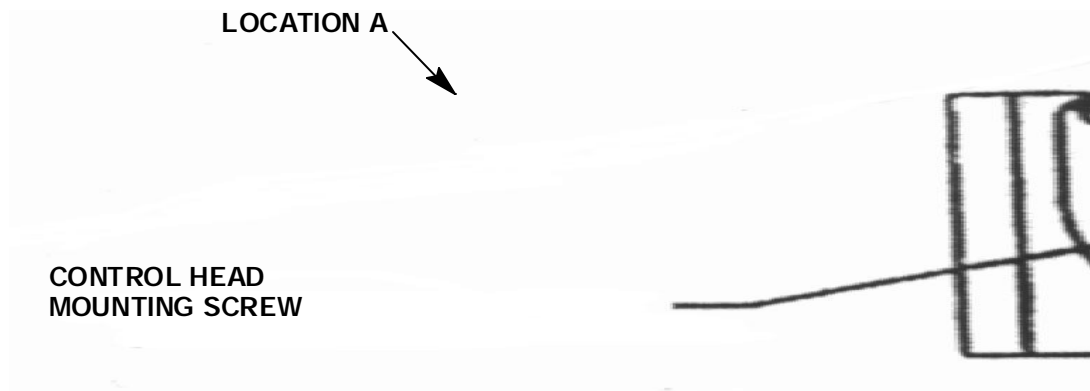

Figure 1A Inertia Reel As Shipped - End View
Bolt supplied with inertia reel is used in position A figure 1A.
(2) Figure 1A shows the reel in the "as shipped" condition. Figure 1B illustrates the proper component orientation for this configuration. Figure 2 illustrates and identifies the components involved in reorienting the control head assembly.